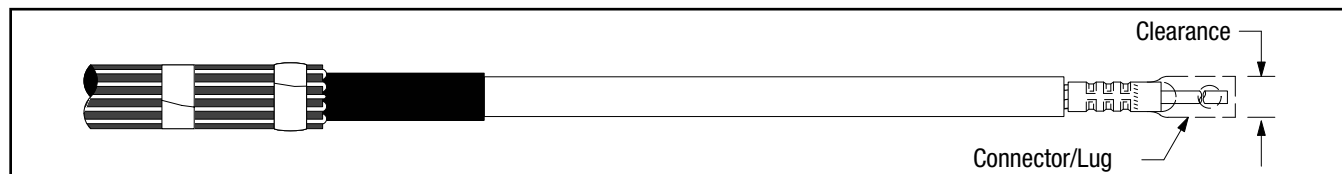

Figure 9
- 7.1 Check to insure 3M Cold Shrink QT-III Silicone Rubber Termination assembly fits over the selected lug or connector BEFORE installing the lug or connector. If lug or connector (Figure 9) will not fit through the termination core, clean the insulation (per Step 8.0) and slide termination on cable before installing lug or connector. **DO NOT REMOVE CORE AT THIS TIME.**